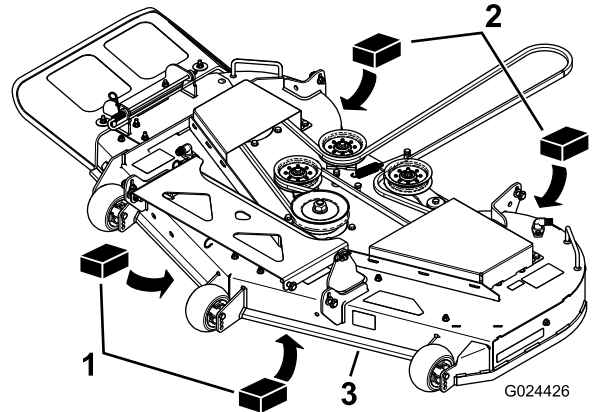

Figure 71
3. Place 2 blocks each having a thickness of 6.6 cm (2-5/8 inches) under each side of the front edge of the deck, but not under the anti-scalp roller brackets (Figure 71).
4. Place 2 blocks each having a thickness of 7.3 cm (2-7/8 inches) under the rear edge of the cutting deck skirt; 1 on each side of the cutting deck (Figure 71).